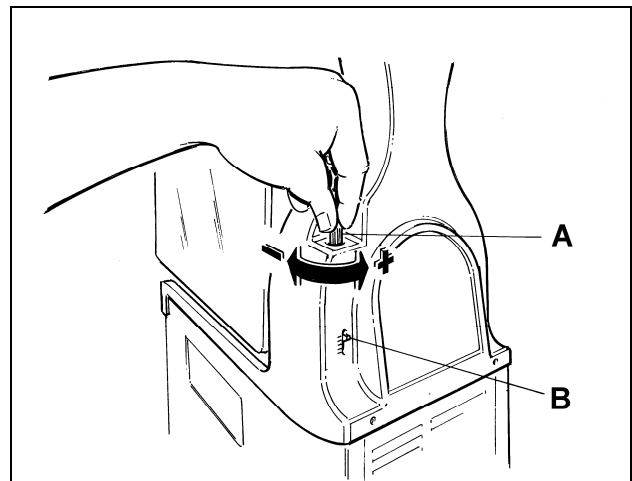

Fig. 16
b) **Adjusting the consistency:** to alter the consistency of the product, turn the screws located on the back of the machine in the following way: clockwise to make the product less dense, counter clockwise to make the product denser (see figure 16).